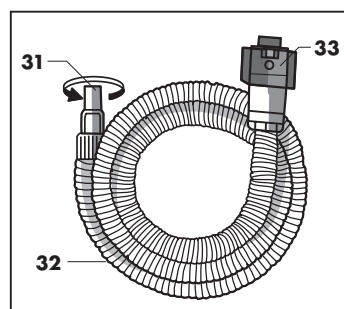
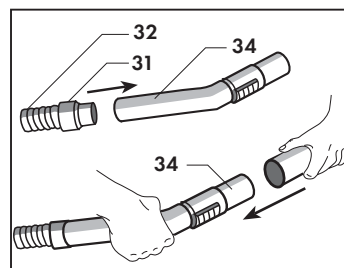

Fig. 29
Fig. 30
To use the accessories, seat the one-block connection (33) of the hose (32) (**Fig. 29**) in the slot of the accessories socket, as described on page 8 (Fig. 8) "Fitting the hose" (**Fig. 8**). To combine the different components of the appliance, just introduce the swivelling joint (31) of the hose (32) into the handle (34) and fit the female portion of the accessory to the male end of the handle (34). (**Fig. 30**).